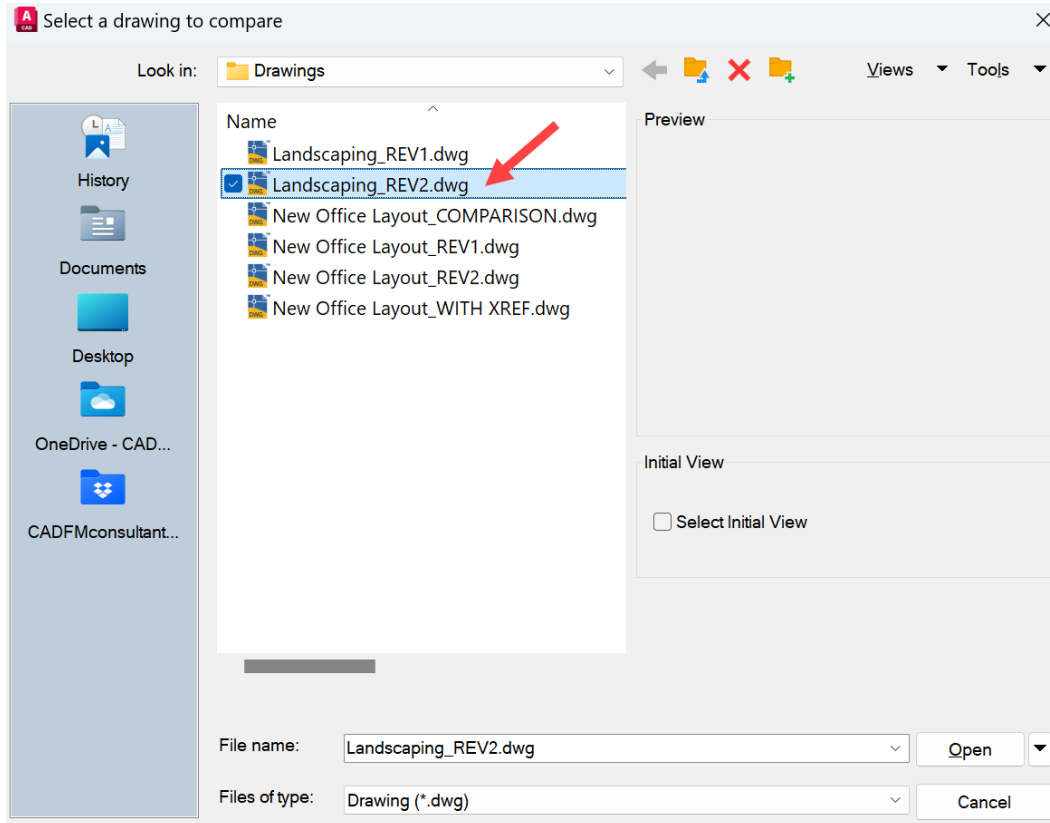

Figure 14.21: The dialog box, with the external reference (Xref) file to be compared (arrowed)
6. A dialog box will appear, allowing you to select another external reference file, Landscaping\_REV2 . dwg, from the folder. This exercise file should also be in the same folder as the host drawing and the current attached Xref, Landscaping\_REV1 . dwg. You will see all these files in the same folder in *Figure 14.21*.